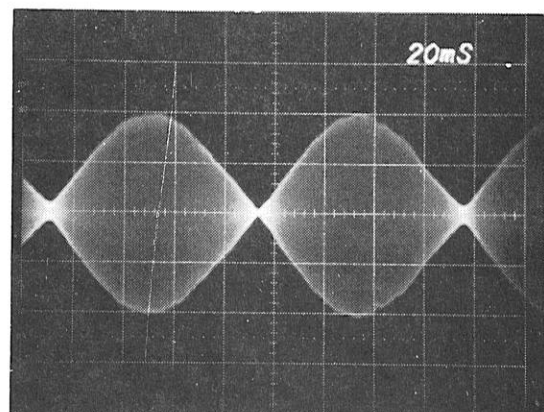

FIGURE 9 HEAD RADIAL ALIGNMENT
- e. The two lobes must be within 80% amplitude of each other. If the lobes do not fall within the specification, continue on with the procedure. Reference Figure 9.
- h. When the lobes are of equal amplitude, tighten the motor clamp mounting screws. Reference Figure 9.